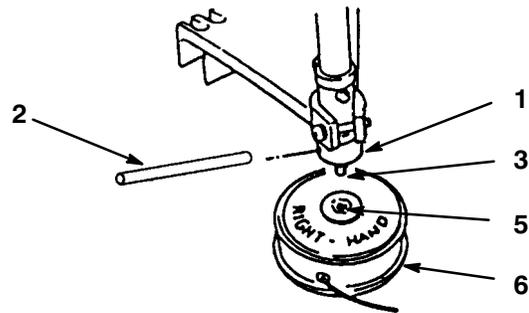

Figure 10
1. Align the hole in the boss adapter with the slot in the bearing case (Fig. 10).
2. Insert a nail into the hole in the guide slot in the boss adapter and bearing boss to lock the attaching shaft (Fig. 10).
3. Remove clear tube and thread trimmer head adapter into the attaching shaft, then tighten the trimmer head firmly by hand (Fig. 10).